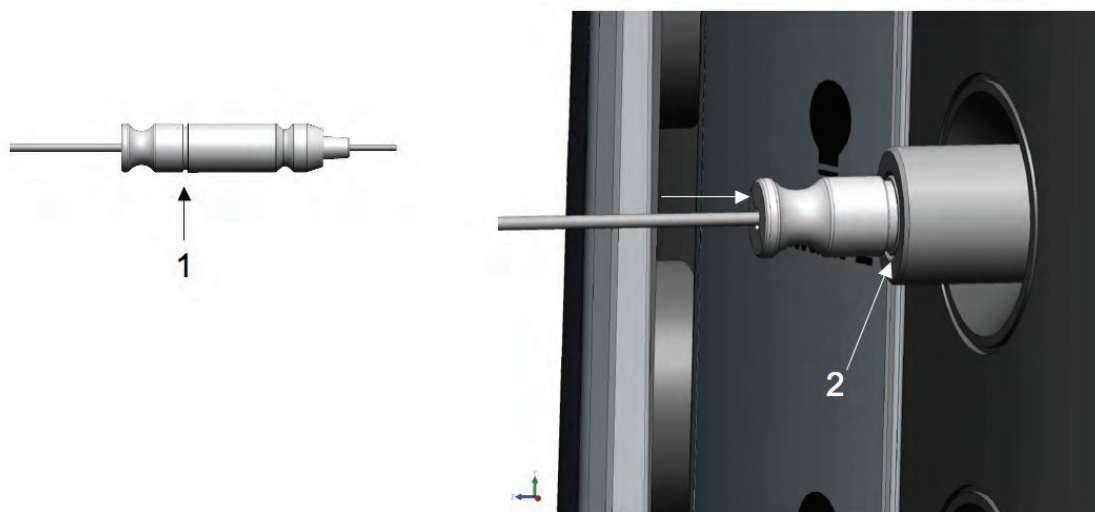

Figure 4.18. **Connecting Fiber-Optic Connector to the Illumination Port.**
1. Connect the fiber-optic illuminator to the desired port (see Figure 1.24 Posterior). Push the connector into the port until the groove on the connector is aligned with the front surface of the port receptacle. See Figure 4.18. (Scrub Nurse or Circulating Nurse)